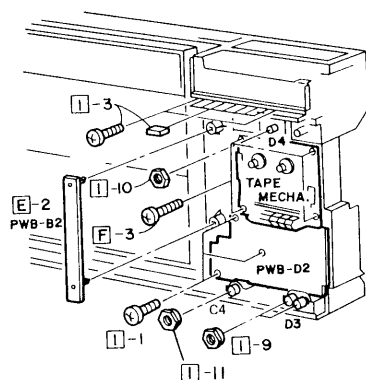

Figure 5-2
2. Remove two holders from the P.W. Board (PWB-B2) shown in Figure 5-2.
3. Remove four screws from the tape mechanism shown in Figure 5-2 and counter belt, and take the mechanism off.
- Remove three screws from the P.W.B. shown in Figure 5-2, and take it off.
- Remove seven function selector buttons shown in Figure 5-2 from the left side by using a screwdriver. Be careful not to cause injuries to the buttons. Then remove two screws and the cord.
- Remove one nut from the headphone jack shown in Figure 5-2. Then take the headphone jack off.